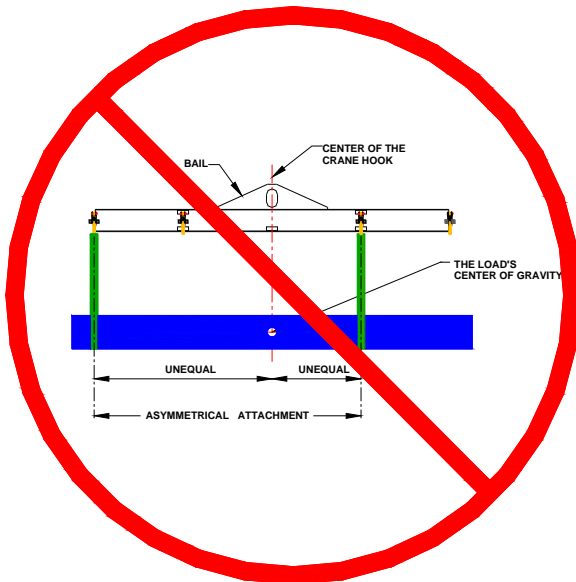

Figure 4
9. See **Figure 4**, The sling attachment is asymmetrical, improper lifting.